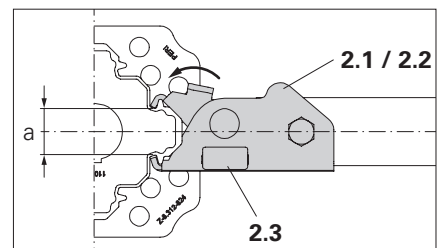

Fig. A2.05
- Engage the wedge connection in the profile grooves of the MULTIPROP MP (1). (Fig. A2.05)
- The Frame MP MRK (2) is attached to the MULTIPROP MP (1). (Fig. A2.05)
- For a tight connection to the outer or inner tube with jaw opening variant "a", two wedge courses are integrated in the wedge (2.3) itself (Fig. A2.05 jaw opening "a")